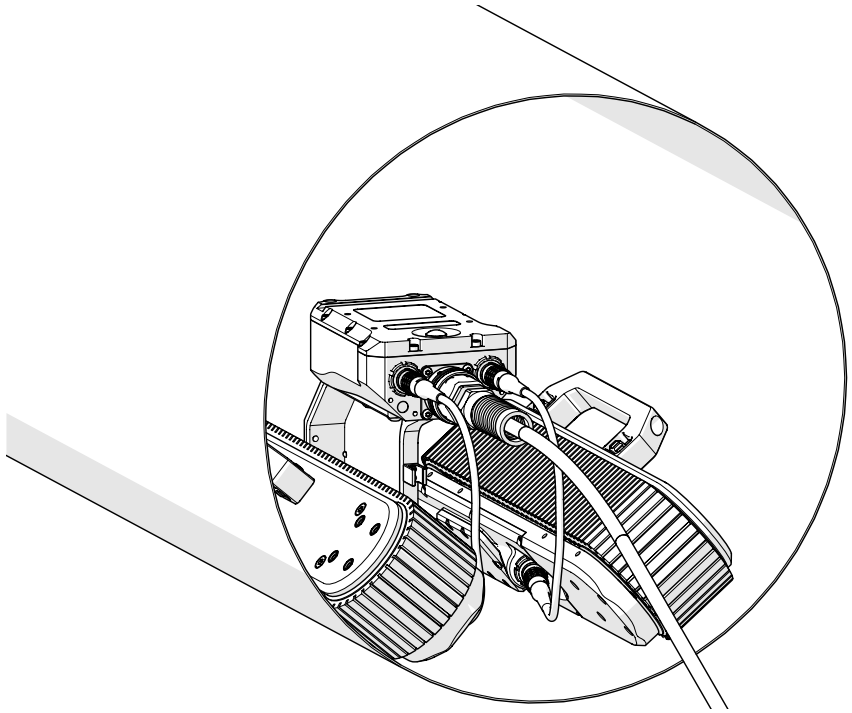

Fig. 88 - Place scanner inside of scan surface
6. Drive crawler into inspection surface (Fig. 88).